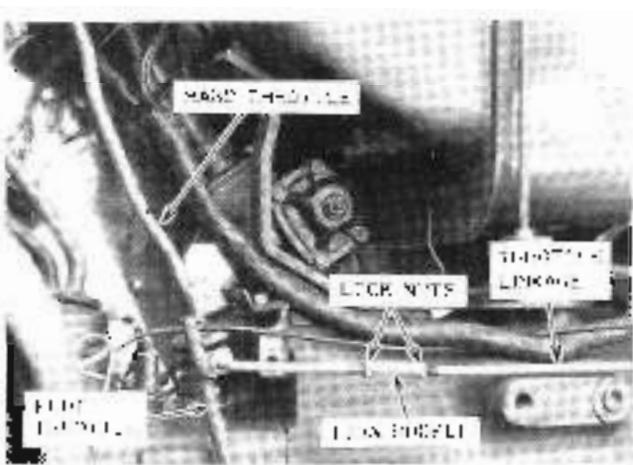

Figure 57 – Throttle Adjustment
4. Tighten leak-off line. Figure 57. Turn clockwise the leak-off line approximately 30-39 N·m.
5. Clean and lubricate the lever used under "Base Throttle" Figure 57, page 27.
1. Loosen the lock nuts. Figure 57.